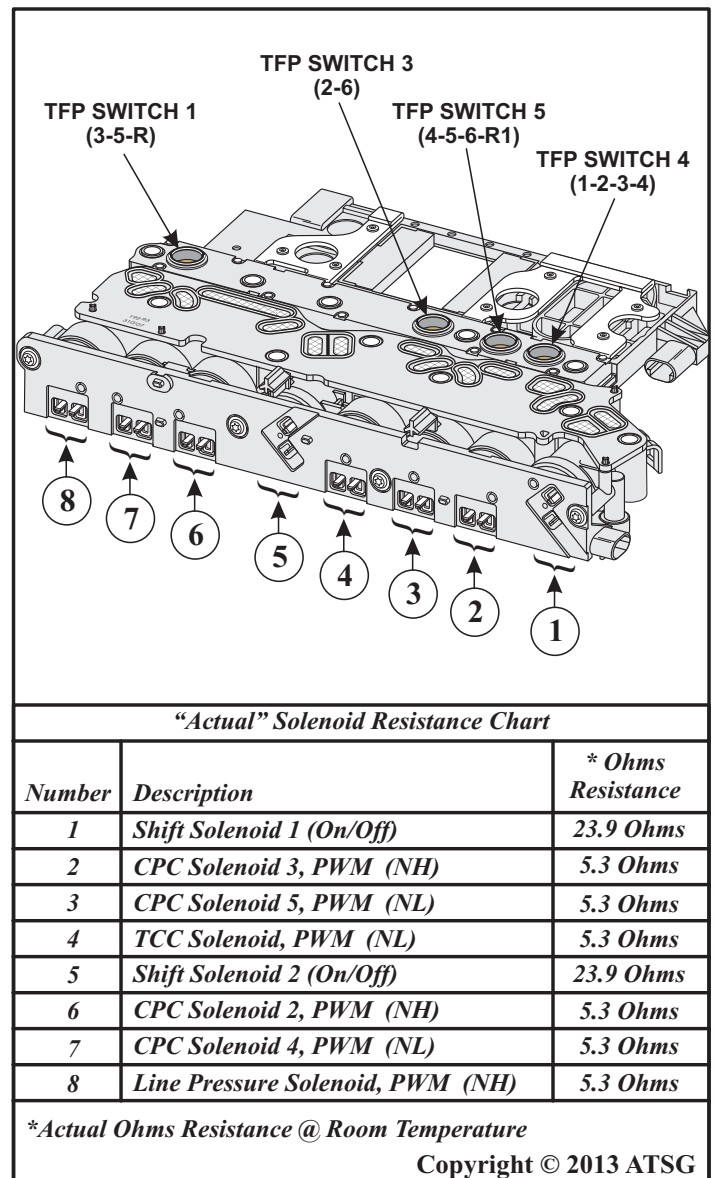

Figure 165
4. We have provided you with a chart of “actual” solenoid resistance readings in Figure 165, from a known good working unit.
5. Check the solenoids across the terminals shown in Figure 165 for the proper resistance.